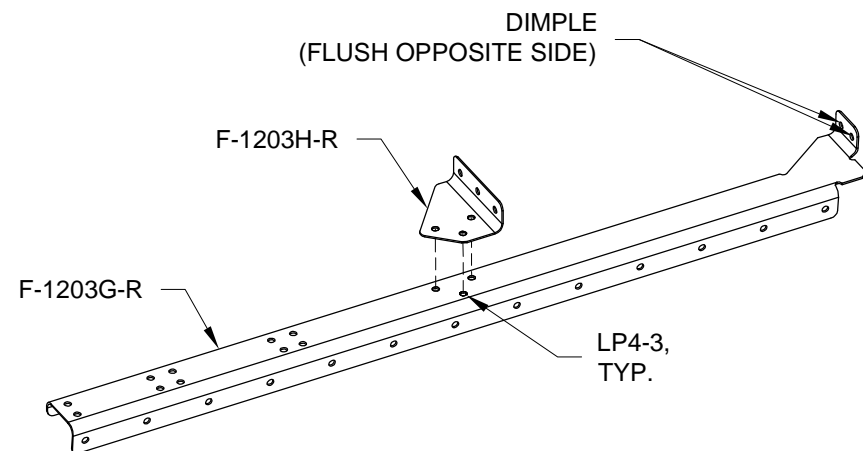

FIGURE 3: INSTALLING THE ARM REST BRACKET
Step 4: Dimple the two holes in the end of F-1203G-R as indicated in Figure 3.
Step 5: Rivet F-1203H-R to F-1203G-R as shown in Figure 3.